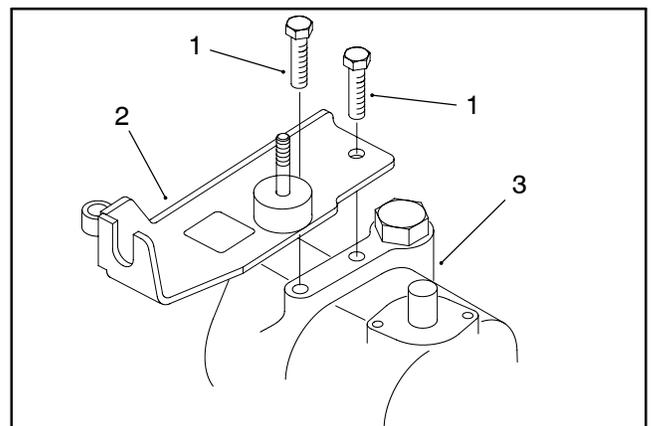
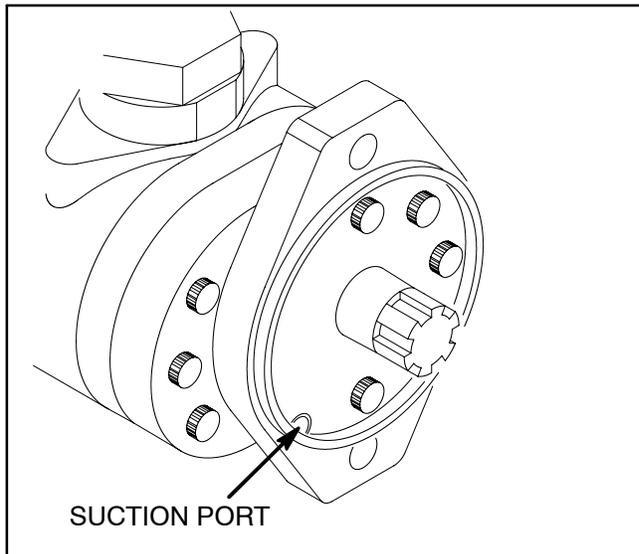

Figure 33
Figure 34
4. Remove both cap screws securing the cable support of the neutral system assembly to the hydrostat. Lift and secure neutral system assembly away from the hydrostat (Fig. 33).
6. Clamp pump inlet hose (24) to prevent draining the hydraulic reservoir.
8. Plug suction port at the end of the gear pump to prevent possible leakage of hydraulic fluid (Fig. 34).
9. Remove plug from the suction port on the gear pump (Fig. 34).
11. Remove clamp from pump inlet hose (24).
12. Position neutral system assembly to the hydrostat (45). Secure assembly to the hydrostat by securing the cable support to the hydrostat with both cap screws (Fig. 33).